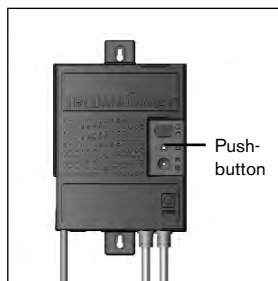

Figure 12
1. Press and hold the push button (Figure 12).